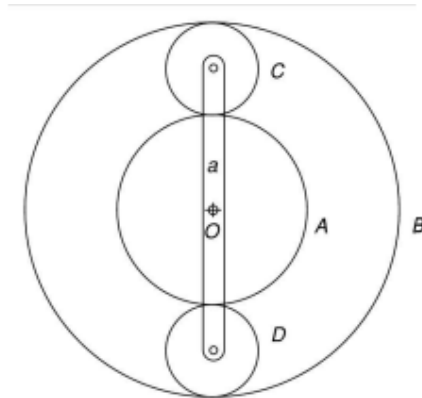

Figure 5 (b)
- b. An epicyclic gear train is shown in Figure 5 (b). The number of teeth on A and B are 80 and 200. Determine the speed of the arm 'a';